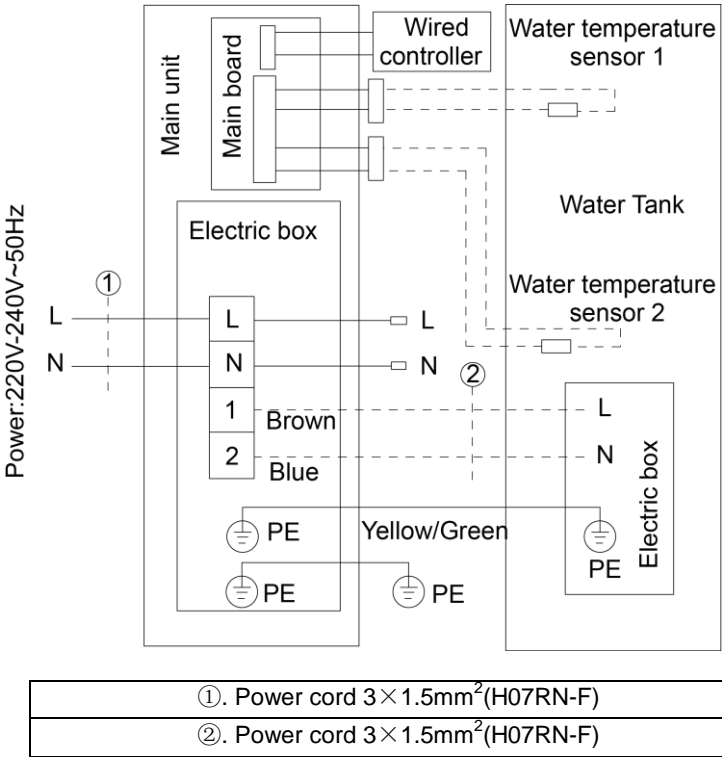

Figure 9-1 External wiring for SWH-35ERA2 mapping SWH-200IRA2
- (1) Unscrew the screw on the connection box cover on the right side panel of the main unit to open the connection box cover. Figure 9-1 shows the external wiring.